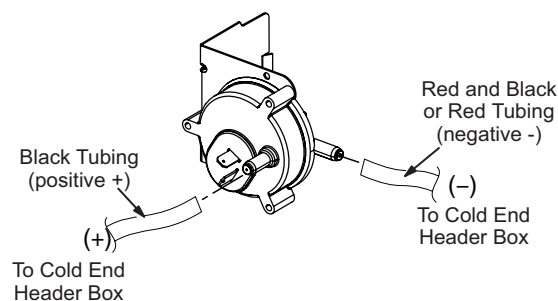

FIGURE 4
- 15 - Remove the wires from the pressure switch and the tubing from the negative side (red and black or red) and positive side (black) of the pressure switch (leave tubing connected to cold end header box). See figure 4.